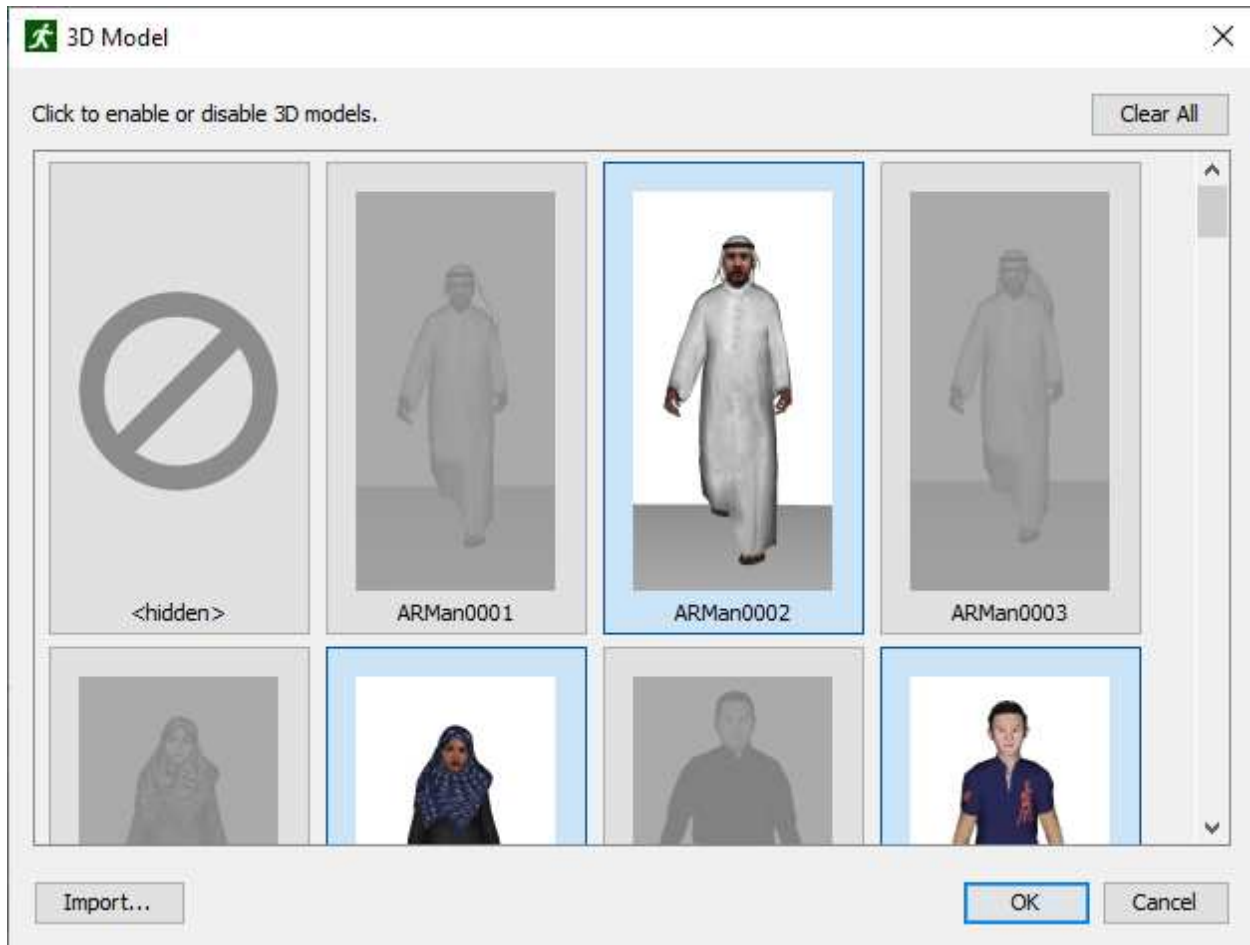

Figure 99. An example of the 3D model dialog.
1. Click **Edit** on the **3D Model** row. This will open the **3D Models** dialog (see Figure 99).